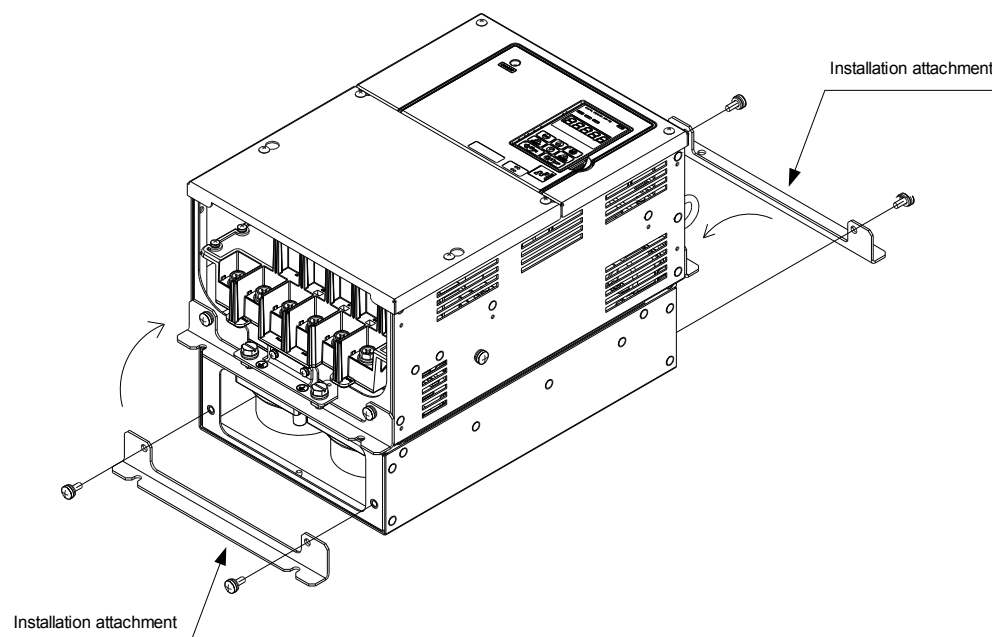
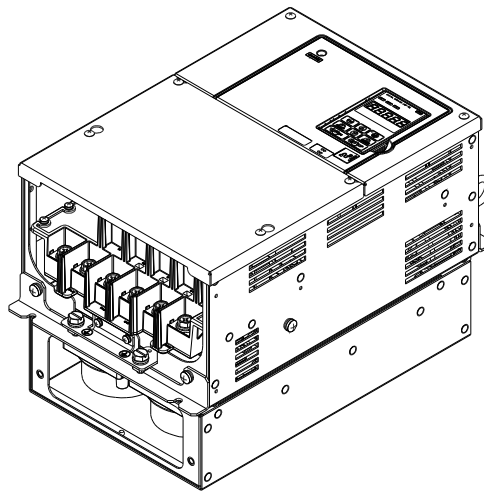

Figure 12: Method 1
Figure 13: Method 1 - Installation completed
- Re-install them on the position, shown in Figure 12. Use the same screws, which had been used on the previous position of the attachment. Figure 13 shows the completely prepared inverter.